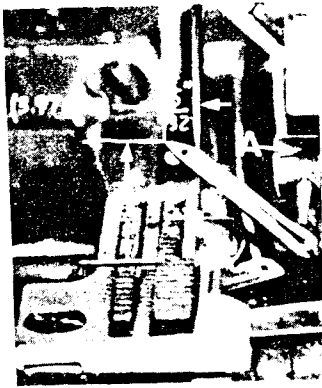

Fig. 10
Next, turn handwheel until looper is at the left end of its travel; check dimensions of upper looper point with respect to needle and throat plate (Fig. 10). If resetting is necessary, do it by moving the upper looper holder (A, Fig. 10). Figure 10 represents the dimensional setting for 695B010, 011, 041, 043, 050 and 052.
If it becomes necessary to move looper thread pull-off (AF), be sure to take up all end play in needle drive shaft before tightening. If upper looper is located so that it is higher over throat plate than recommended in Fig. 10, the purl will tend to form near top edge. If upper looper is too low, the purl will form nearer bottom edge.